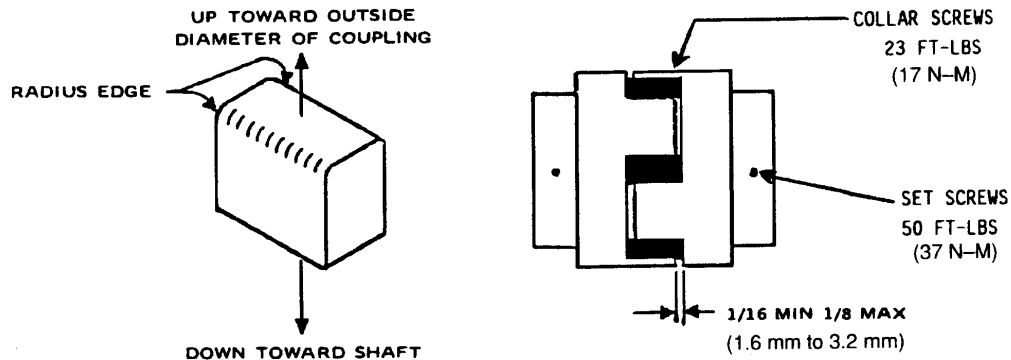

Figure 7-1 – INSTALLATION OF COUPLING CUSHIONS
COUPLING - The motor and compressor are direct connected by a resilient type flexible coupling with several individual cushions, Figure 7-1. The coupling does not require lubrication.
Individual Cushion Design (Figure 7-1)
3. Working through the coupling guard opening, center the coupling over the gap between the shafts, maintaining the gap as shown in Figure 7-1, between the ends of the jaws on one coupling body and the flange on the opposite coupling body. Tighten set screws in each coupling body.
4. Insert individual cushions as shown in Figure 7-1, and slide the collar over the cushions and secure with cap screws. Reinstall the cover plate.